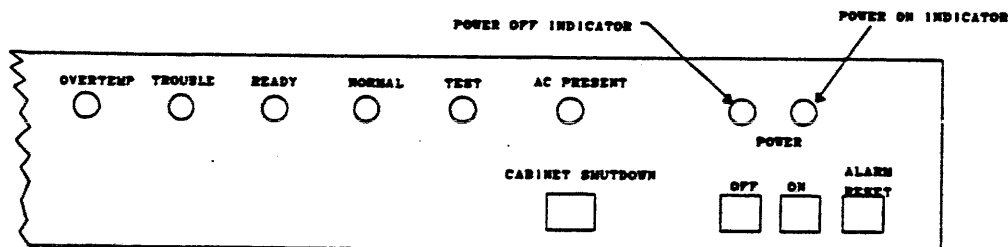

FIGURE 4-12. OPERATOR CONTROL PANEL (POWER OFF AND POWER ON INDICATORS)
- Verify that the POWER ON indicator is illuminated and the POWER OFF indicator is extinguished. These indicators are located on the Operator Control Panel. See Figure 4-12.
The POWER CONTROL-REMOTE/LOCAL switch located at VC1 (see Figure 4-12) must be in the REMOTE position when removing power via the Operator Control Panel.